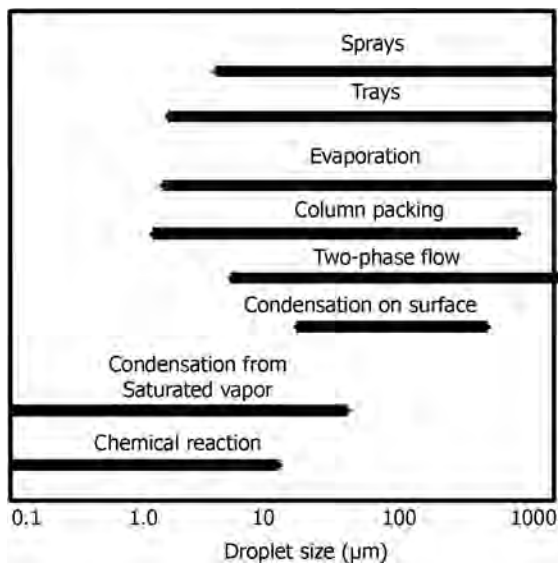

FIGURE 16.35 Typical droplet size distribution from entrainment.
- Figure 16.35 gives typical droplet size distribution from entrainment.